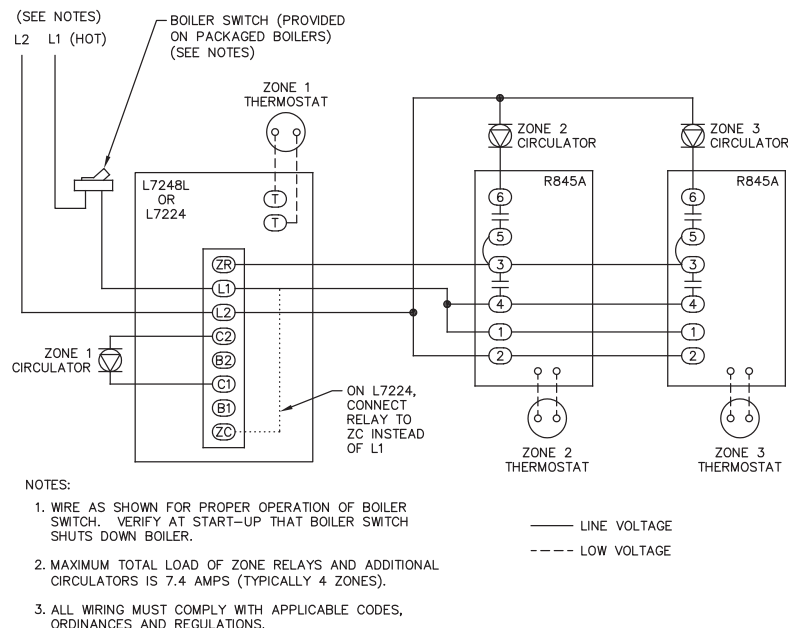

Figure 8: Wiring Diagram – WBV/WV, WV-DV, EC, PRO and SC less Tankless
- c. WBV/EC/SC. Water less tankless heater. See Figure 8.